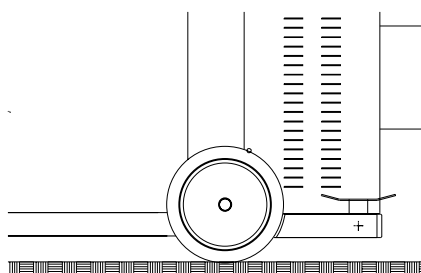
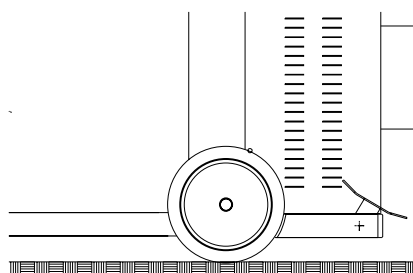

Figure 7
Figure 8
- Release the parking brake (see Figure 7 and Figure 8)
- For adjusting and positioning the arm height use the handle on the monobloc. (see Figure 8).